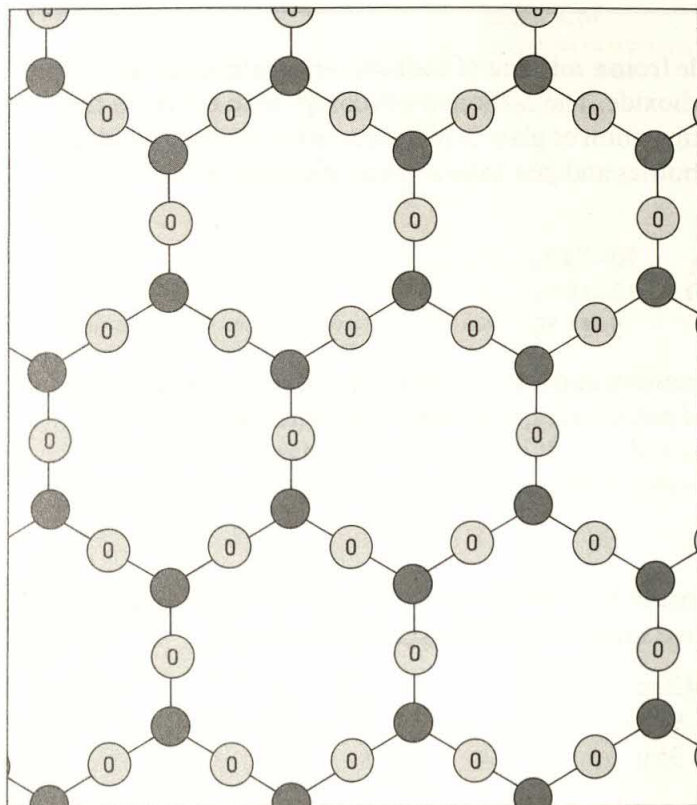
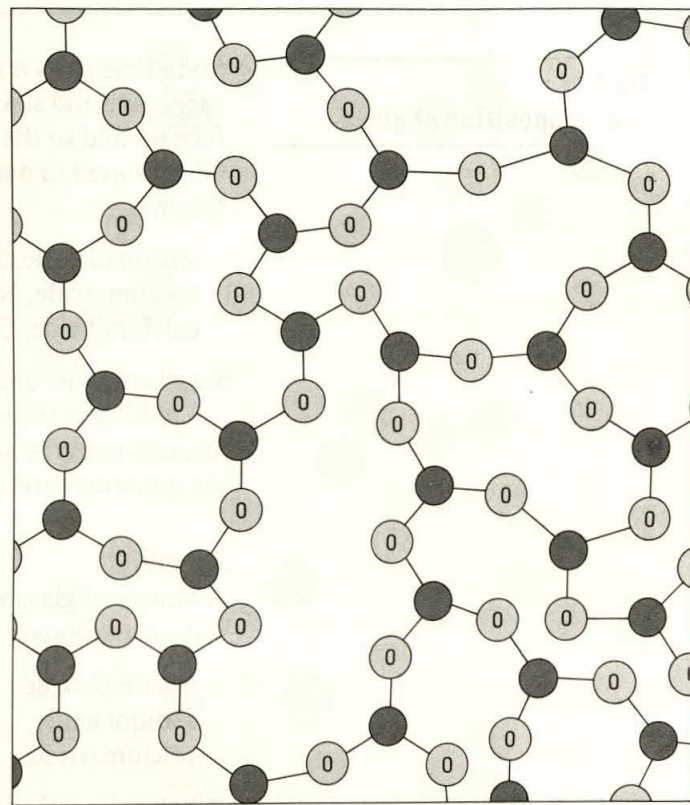

Figure 6.7
Figure 6.8
freely enough to return to the ordered arrangement in a crystal (figure 6.7) and are “frozen” into a disordered state (figure 6.8).
Crystalline and glassy forms of silicon dioxide consist of three-dimensional *giant structures* of atoms. Each silicon atom forms four bonds with oxygen atoms. It is difficult to draw these structures clearly, and so in figures 6.7, 6.8 and 6.10 the giant structures are given in two dimensions. In these diagrams you can see that the atoms shown as black circles are forming three bonds with oxygen atoms. Boron atoms do this in borosilicate glass.
- 5 Look carefully at figure 6.10, and compare it with figure 6.8. Use the diagrams to suggest an explanation for the fact that soda-lime glass has a lower melting-point than pure silicon dioxide glass. Which ingredient do you think has the bigger effect on the lowering of the melting-point: the sodium carbonate or the calcium carbonate? Try to give reasons in support of your answers.